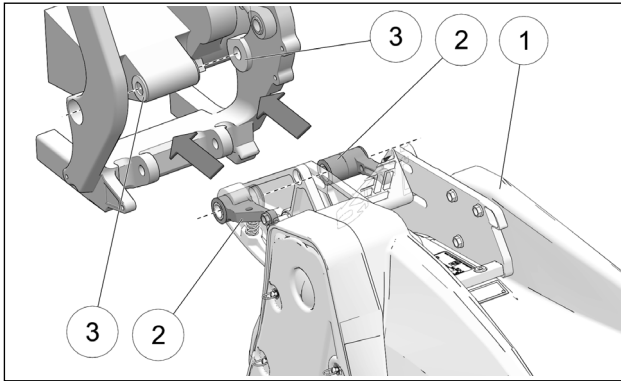

Figure 21
- Slide the YETI Conversion System (1) into position to align Bike mount adapters (2) where your bike's swing arm (3) used to be. See Figure 21.